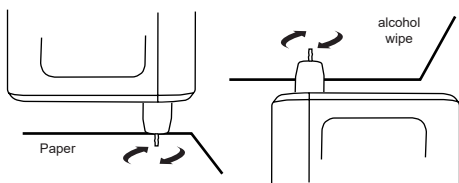

Fig. 2.8
- For both optical and thermal cleaning, hold the device with the probe tip forming a right-angle (90-degree) with an alcohol wipe and any paper, respectively. Gently move in a circular motion without retracting the tip or applying too much force (Fig. 2.8).